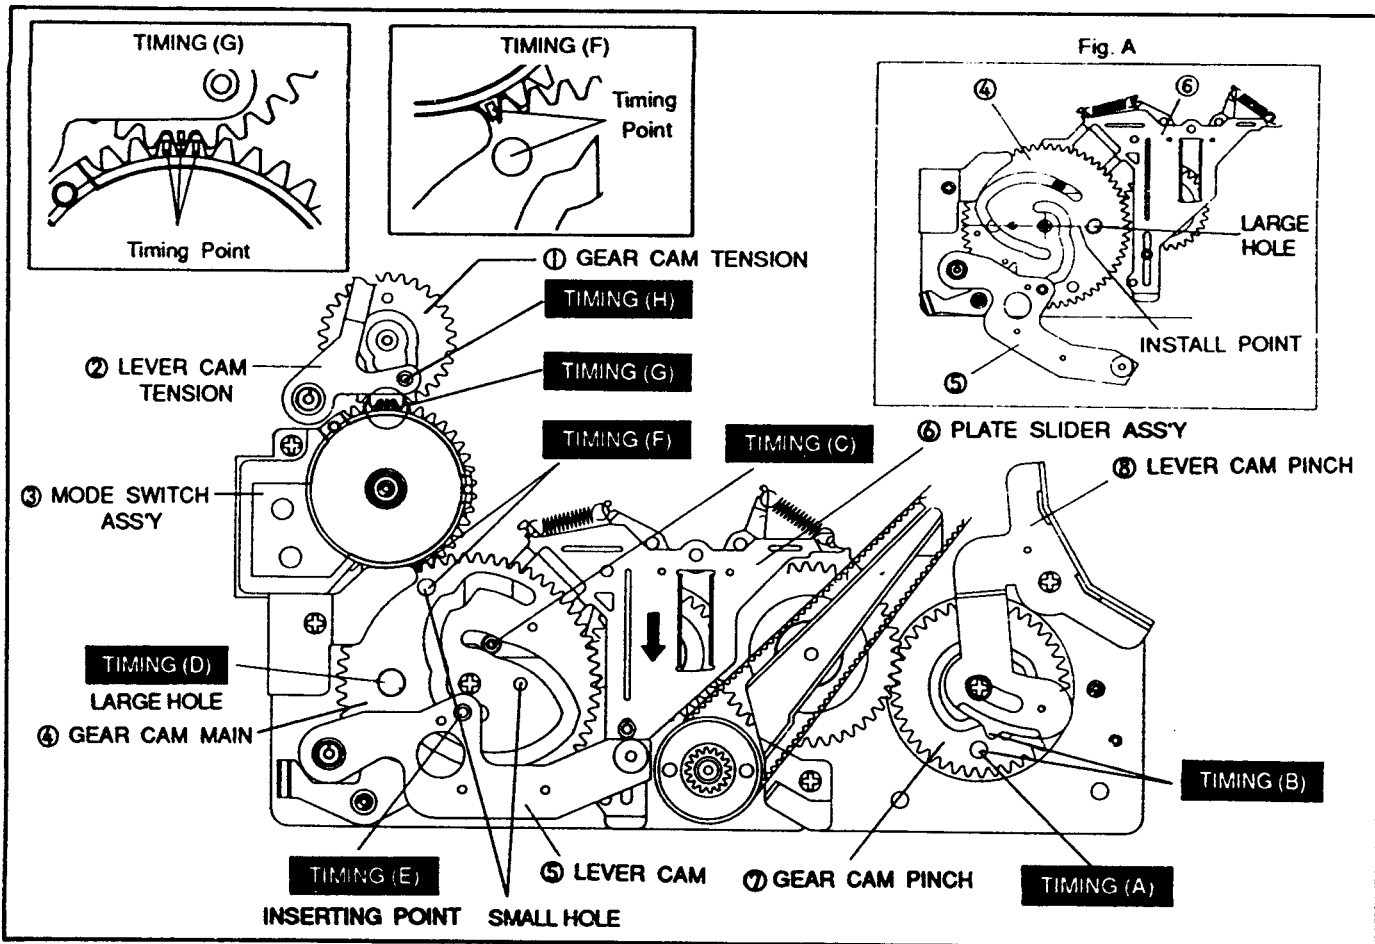

Fig. 33
Note : When installing the Gears parts, refer to Fig. 33.
- 2) Mount the Guide Mode Switch ④, then secure it with 1 screw ③.
- 3) Fit the Gear Loading A ⑭ into the axle and then install it with the Washer Slit ⑬.
- 4) Mount the Gear Cam Tension ⑫ as described in Timing point (G) of Fig. 33, and then install it with the Washer Slit ⑪.
- 5) Fit the Gear Loading B ⑩ into the axle, then install it with the Washer Slit ⑨.
- 6) Mount the Lever Cam Tension ⑧ as described in Timing (H) of Fig. 33, then install it with the Washer Slit ⑦.
- 7) Align the dowel of the Pole Base Sub Ass'y ② with the Guide Hole ⑮, then mount the Pole Base Sub Ass'y ②, and secure it with the screw ①.
- 1) Mount the Switch Mode Ass'y ⑥ as described in Timing point (F) of Fig. 33, then secure it with 1 screw ⑤.
Note : Confirm the Timing point of the Switch Mode Ass'y (See Fig. 33).
TIMING B : When installing Lever Cam Pinch to Gear Cam Pinch, Timing "B" point of Cam as described in Fig. 33.
TIMING E : When installing Lever Cam ⑤ to Gear Cam Main ④, Timing "E" point of Cam as described in Fig. 33.
TIMING H : When installing Lever Cam Tension ② to Gear Cam Tension ①, Timing "H" point of Cam as described in Fig. 33.